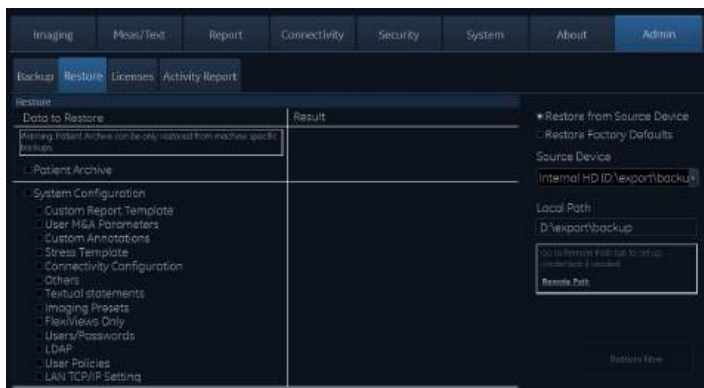

Figure 8-31. The Restore sheet
- One or several **system configuration items** to restore parts of the system settings and user presets (see Figure 8-31).